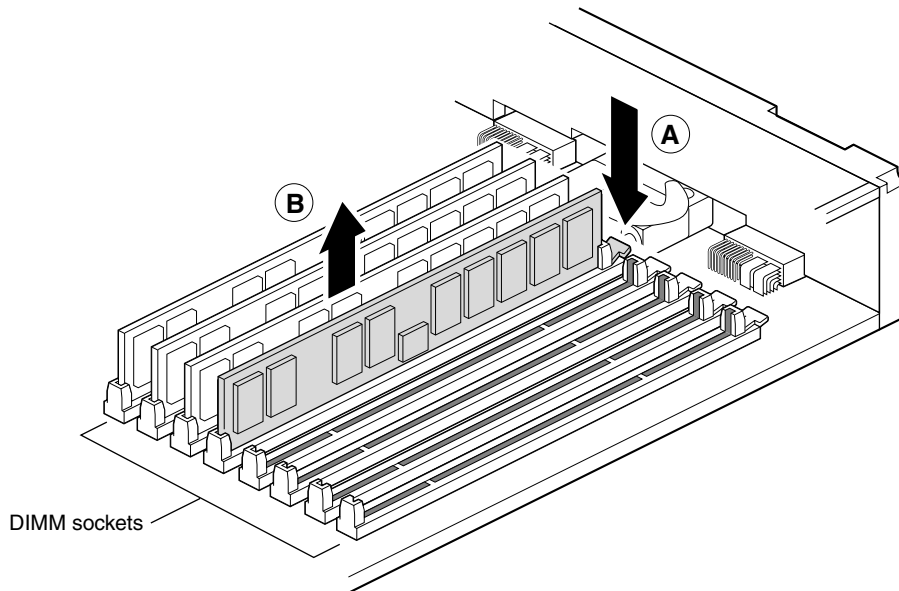

Figure 8-21 CT/i (Octane) DIMM Removal
- 5.) As shown in Figure 8-21 , press down on the latch at (A), near the end of the DIMM socket. The DIMM partially ejects from the socket. It can then be remove as shown in (B).